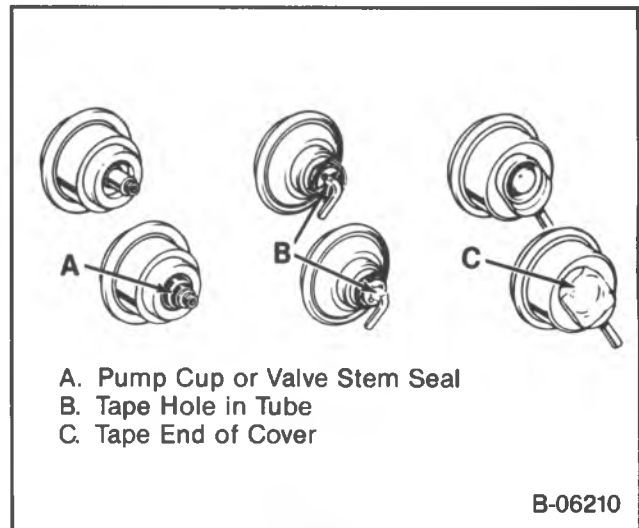

Figure 29 — Plugging Vacuum Break Bleed Holes
VACUUM BREAK CHECKING PROCEDURE (Figure 29)
- If the vacuum break has an air bleed hole, plug it during this checking procedure (figure 29).